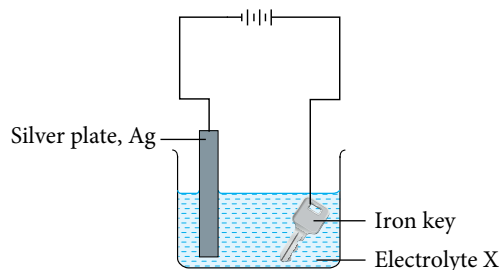

Figure 1.35
- (e) If the experiment of electrolytic cell I is repeated using molten copper(II) chloride, CuCl_2 , predict the observation at the anode.
2. Salim uses the apparatus shown in Figure 1.35 to electroplate an iron key with silver, Ag metal.